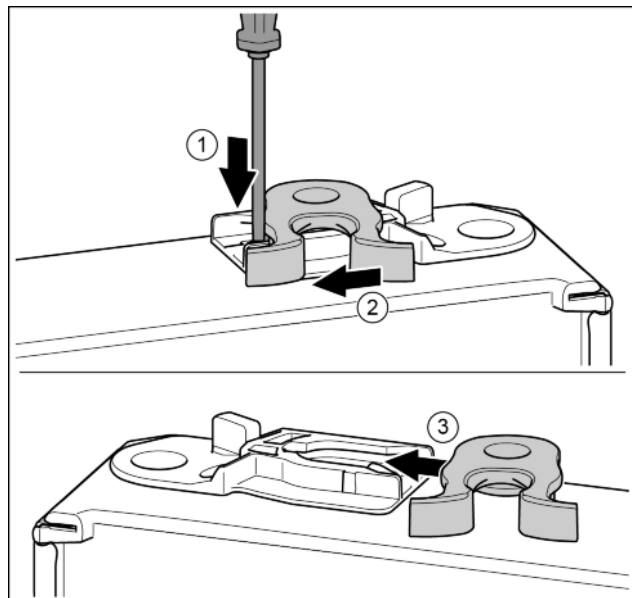

Fig. 17
- Push the tab downwards with a slotted screwdriver. Fig. 17 (1)
- Pull the door latch out of the guide. Fig. 17 (2)
- Push the door latch into the guide on the other side. Fig. 17 (3)